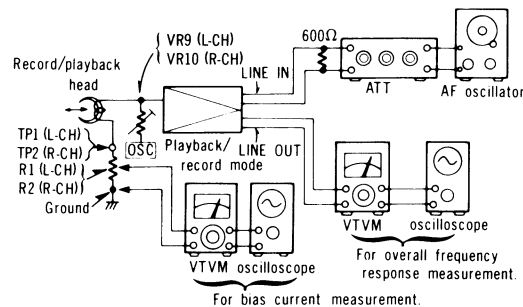
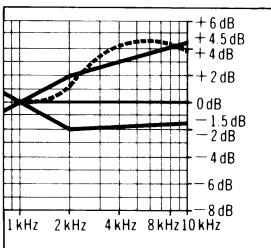
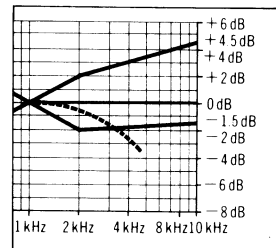

Fig. 12
Fig. 13
Fig. 14
Equipment * VTVM * ATT * Resistor (600Ω) * Test tape (reference blank tape) ...QZZCRA for Normal ...QZZCRX for CrO₂ ...QZZCRZ for Metal * AF oscillator * Oscilloscope	Overall frequency response adjustment by recording bias current Note 1: On RS-M216, overall frequency response is adjusted with tape selector set at Normal. Note 2: Recording equalizer is fixed. 1. Make connections as shown in fig. 12. 2. Input a 1 kHz, -24 dB signal through LINE IN. Place the set in record mode. 3. Fine adjust the attenuator to obtain 0.4 V LINE OUT output. * Make sure that the input signal level is -24 ± 4 dB with 0.4 V output voltage. 4. Set the tape selector to Normal, and load the test tape (QZZCRA). 5. Adjust the attenuator to reduce the input signal level by 20 dB. 6. Adjust the AF oscillator to generate 50 Hz, 100 Hz, 200 Hz, 500 Hz, 1 kHz, 4 kHz, 8 kHz and 10 kHz signals, and record these signals on the test tape. 7. Playback the signals recorded in step 6, and check if the frequency response curve is within the limits shown in the overall frequency response chart for normal tapes (fig. 11). (If the curve is within the charted specifications, proceed to steps 8, 9 and 10.) If the curve is not within the charted specifications, adjust as follows: Adjustment (A): When the curve exceeds the overall frequency response chart specifications (fig. 11) as shown in fig. 13.  Fig. 13 1) Increase bias current by turning VR9 (L-CH) and VR10 (R-CH). (See fig. 1 on page 4). 2) Repeat steps 6 and 7 to confirm. (Proceed to steps 8, 9 and 10 if the curve is now within the charted specifications in fig. 11.) 3) If the curve still exceeds the specifications (fig. 11), increase bias current further and repeat steps 6 and 7. Adjustment (B): When the curve falls below the overall frequency response chart specifications (fig. 11) as shown in fig. 14.  Fig. 14 1) Reduce bias current by turning VR9 (L-CH) and VR10 (R-CH). 2) Repeat steps 6 and 7 to confirm. (Proceed to steps 8, 9 and 10 if the curve is now within the charted specifications in fig. 11.) 3) If the curve still falls below the charted specifications (fig. 11), reduce bias current further and repeat steps 6 and 7. 8. Switch the tape selector to CrO₂, change test tape to QZZCRX, and record 50 Hz, 100 Hz, 200 Hz, 500 Hz, 1 kHz, 4 kHz, 8 kHz, 10 kHz and 12.5 kHz signals. Then, playback the signals and check if the curve is within the limits shown in the overall frequency response chart for CrO₂ tapes (fig. 15). 9. Switch the tape selector to Metal, change test tape to QZZCRZ, and record 50 Hz, 100 Hz, 200 Hz, 500 Hz, 1 kHz, 4 kHz, 8 kHz, 10 kHz and 12.5 kHz signals. Then, playback the signals and check if the curve is within the limits shown in the overall frequency response chart for metal tapes (fig. 15).